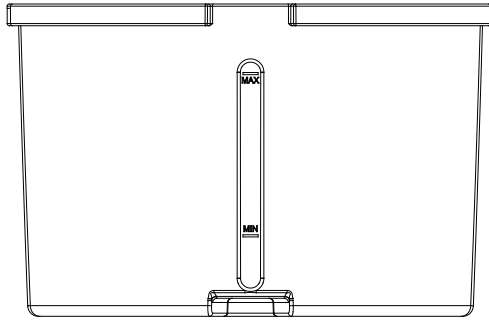

Fig 5
- For manual water filling, please note the level indicator in the front of the air cooler (Fig. 5).
- Do not fill the water exceeding the maximum water level (Fig. 5).